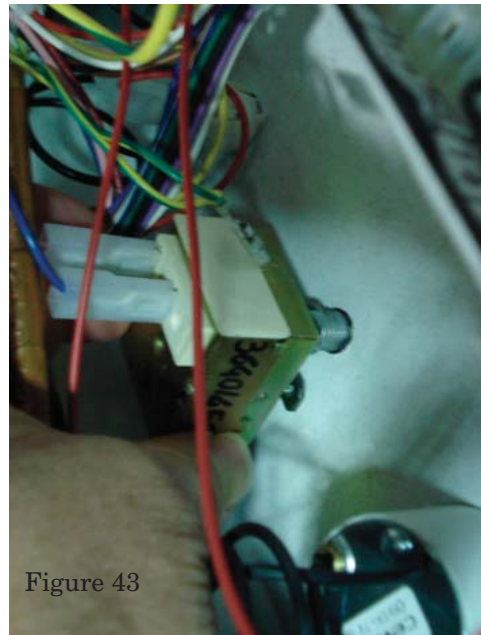

Figure 43
3. Insert the manual reset push button of the water temperature limit through the hole in the control panel. See Figure 43.